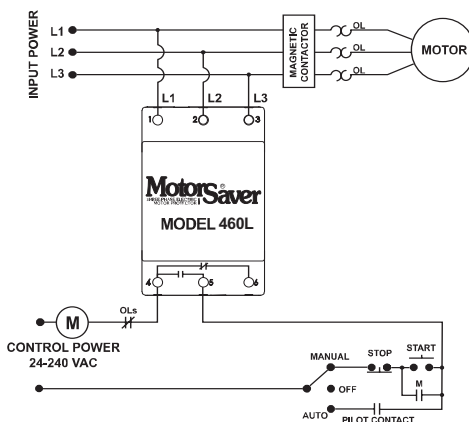
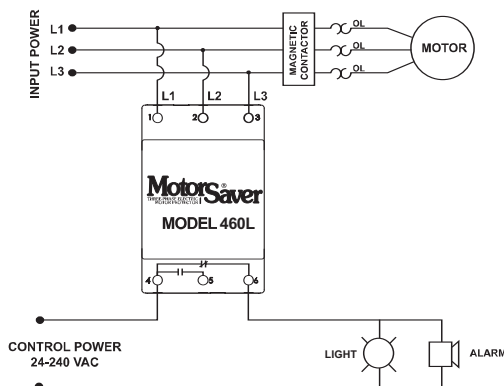

Figure No. 1: Motor Control Wiring Diagram
Figure No. 2: Alarm Wiring Diagram
2. Connect L1, L2 and L3 on the MotorSaver's terminal strip to the **LINE SIDE** of the motor starter. (See Figure No. 1).
3. Connect the output relay to the circuitry to be controlled. Connect the normally open contact in series with the magnetic coil of the motor starter as shown in Figure No. 1 for motor control. Connect normally closed contact in control circuit as shown in Figure No. 2 for alarm operation.